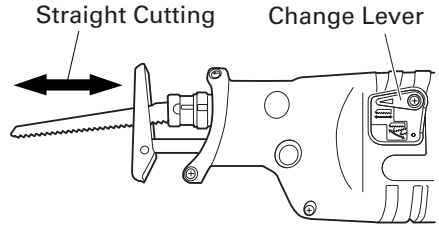
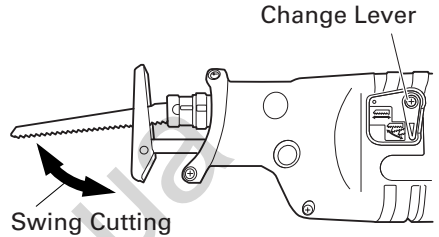
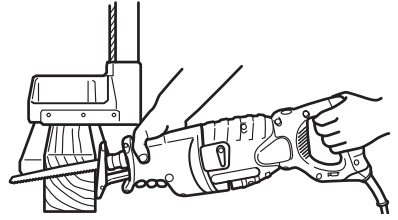

Fig. 14
Fig. 15
Fig. 21
Two cutting systems can be selected with this unit. The first is straight cutting, in which the saw blade is moved linearly, and the second is the swing cutting, in which the saw blade is swung like a pendulum. (Fig. 14, Fig. 15)
You can perform straight cutting by setting the change lever widthwise. Straight cutting should normally be performed when cutting hard materials such as metal, etc. (Fig. 14)
You can perform swing cutting by setting the change lever lengthways. Swing cutting should normally be performed when cutting soft materials such as wood, etc. Swing cutting is efficient since the saw blade forcibly bites into the material. (Fig. 15)
- (3) Use the dial to adjust the speed of the saw blade to suit your working conditions and materials.
- (4) You can cut smoothly if you set the change lever position to straight cutting (Fig. 14).
- (1) When cutting lumber, make sure that the workpiece is fastened firmly before beginning. (Fig. 21)
- (2) You can cut efficiently if the speed of the saw blade is set to dial scale "5".
- (3) You can cut efficiently if the change lever position is set to swing cutting (Fig. 15). Alternatively, you can cut cleanly if the change lever position is set to straight cutting (Fig. 14).